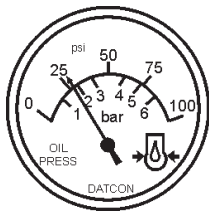

Figure 57. Oil Pressure Gauge
14. The engine oil pressure gauge (Figure 57) will indicate the oil pressure (kg/ cm²) of the engine. Under normal operating conditions the oil pressure is approximately